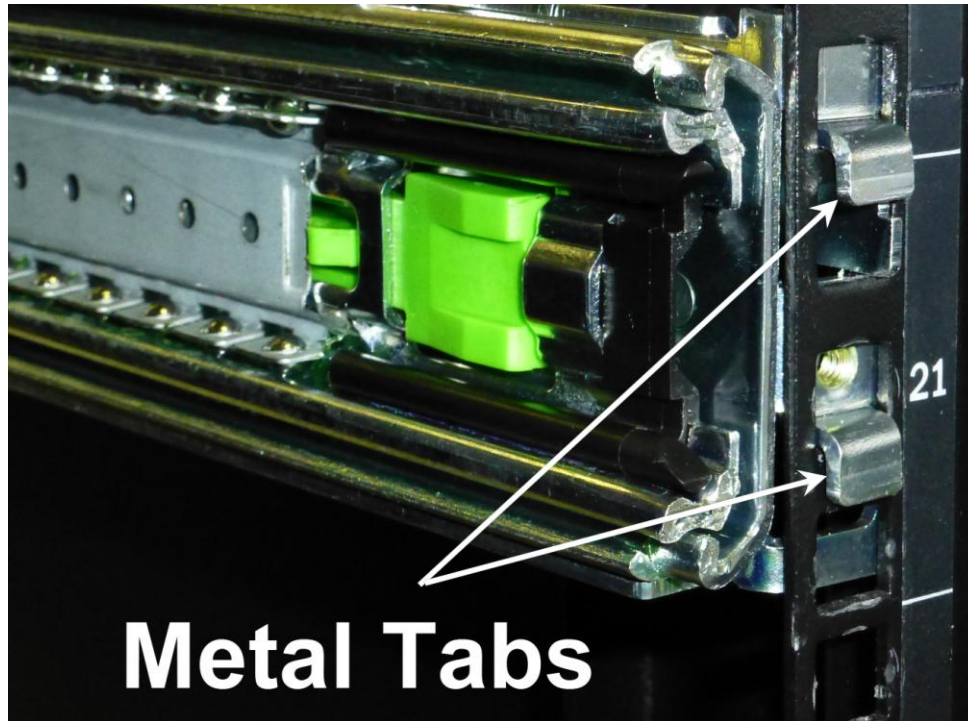

Figure 7. **Metal Tabs**
- iii. Drop metal tabs over rack holes (Figure 7).